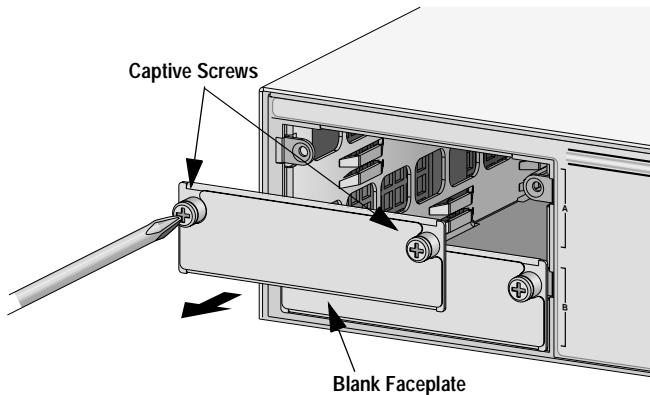

Figure 6 Removing the Blank Panel
2. Remove a blank faceplate from one of the expansion slots by unscrewing the faceplate's two captive screws. Refer to Figure 6. Do not remove the blank faceplate if you are not installing an expansion module into the slot.